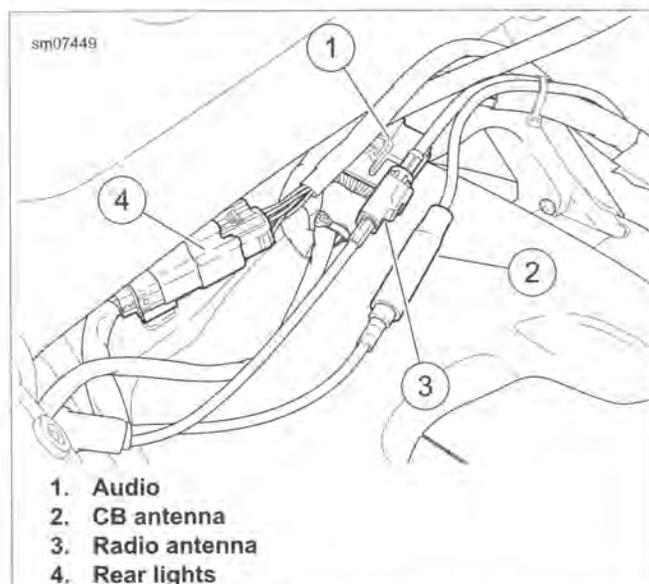

Figure 2-120. Tour-Pak Connectors
1. See Figure 2-120. Separate Tour-Pak electrical connectors.
5. See Figure 2-120. Mate Tour-Pak electrical connectors and secure to anchors.